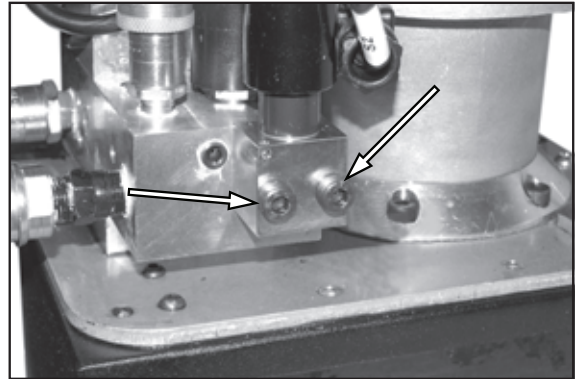

Figure 36.
2. See Figure 36. Remove the two pressure-limiting valve bolts and the valve.